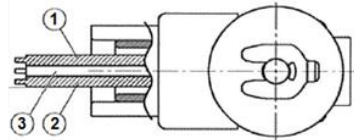

Figure 4. Conduit
- Do not bend the lead wires beyond 90° with a radius of less than 20mm or damage may occur. See figure 4.